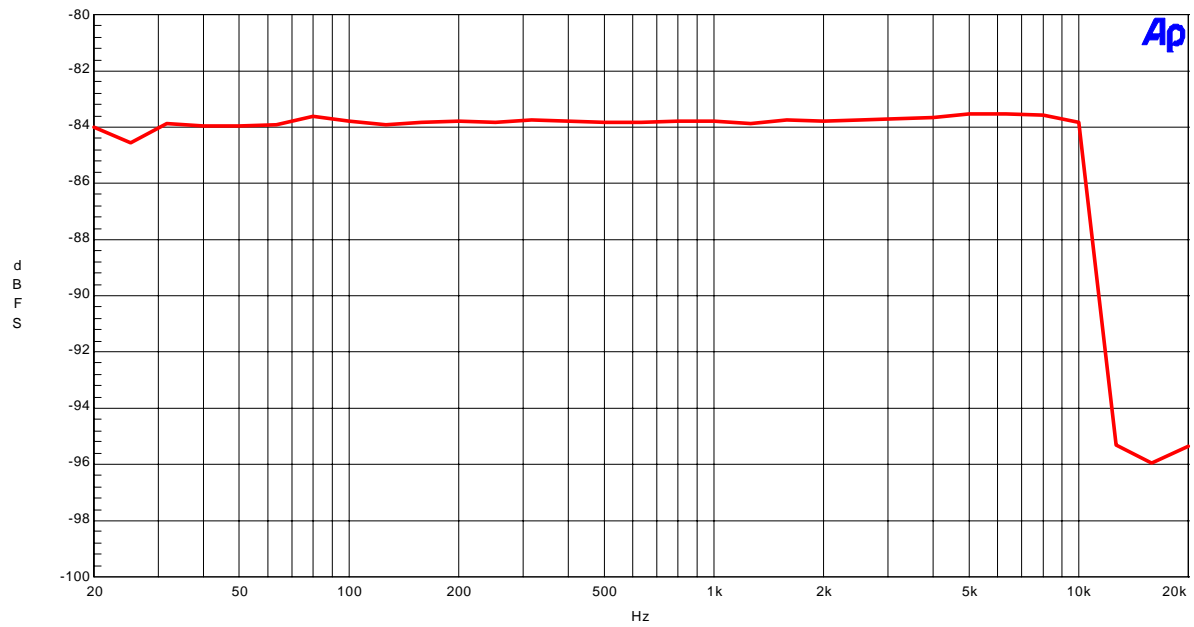

Figure 3. THD+N vs fin (fs=48kHz; -1dBFS input)
- Figure 3. THD+N vs fin (-1dBFS input)